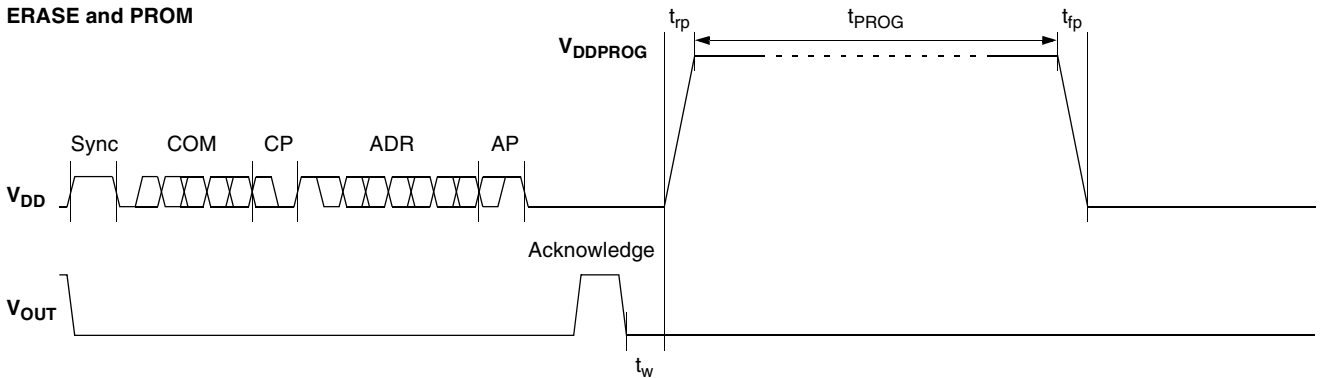

Fig. 5-4: Telegram for coding the EEPROM programming
- Programming the EEPROM cells (see Fig. 5-4 on page 28)